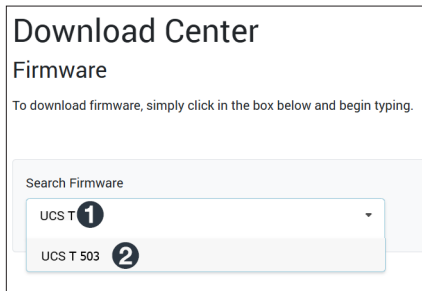

Figure 24. Locating Firmware
2. Start typing the name of the software product in the text box (see figure 24, **1**).